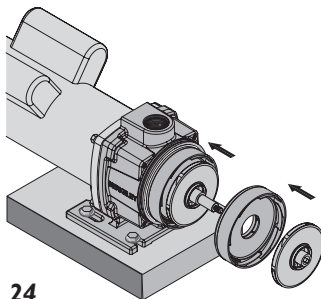

Figure 24
4. Slide a diffuser onto the shaft (open face out) until it seats on the bracket (see Figure 24). Follow the diffuser with an impeller. Engage the molded impeller key in the slot in the shaft. Don't force it! Be sure that the impeller eye faces out (forward).